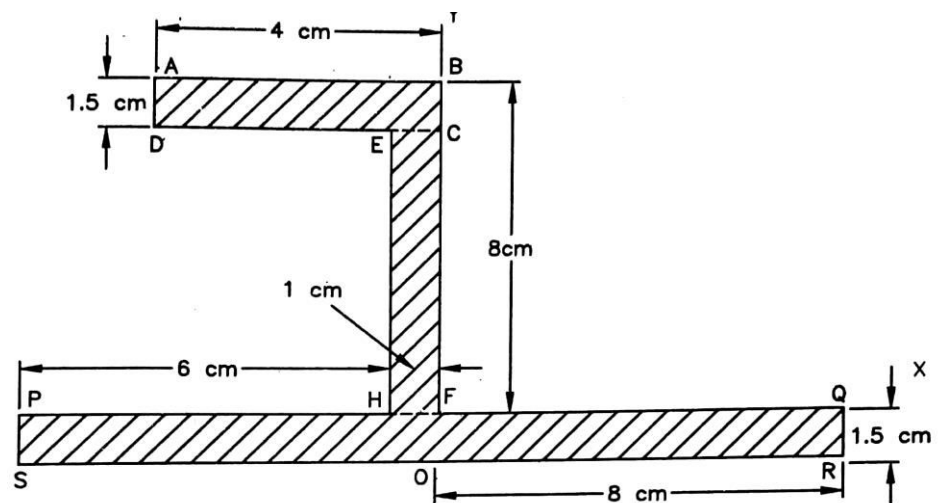

Fig.20
10. Find the centre of gravity of the shaded area shown in below Fig.20 with reference to X-Y co-ordinate system [L1] [12M]